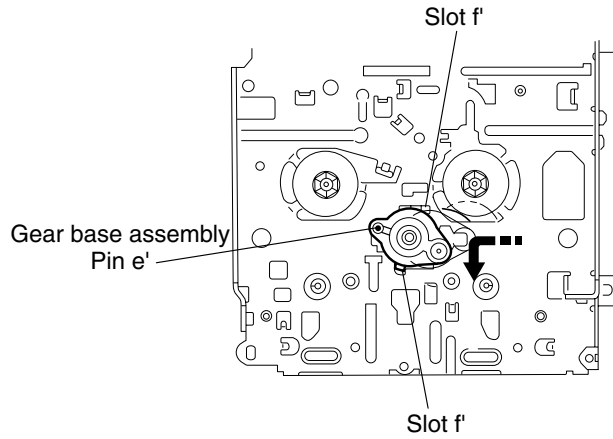

Fig.34
**■ Removing the gear base assembly / take up gear / reflector gear (See Fig.34 to 36)**